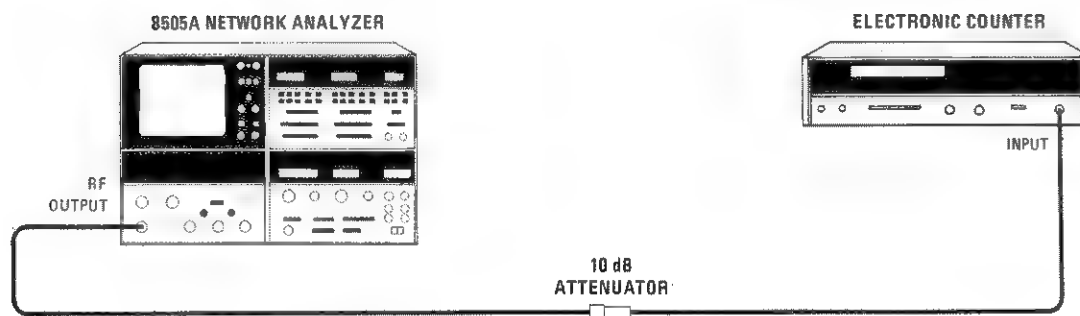

Figure A2-12. Frequency Accuracy Test Setup
- b. Connect equipment as shown in Figure A2-12 and set external counter resolution to 100 Hz.